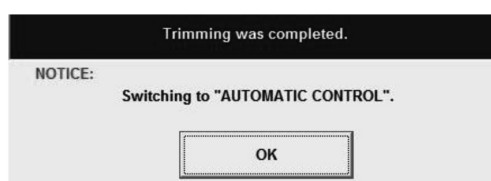

Fig.50
- ⑤ Similar to "Analog Output Trim [4-20mA]", a dialog box asks you whether you want to repeat the trim or not. Click on "YES" for repeated trim, or "NO" for proceeding to the next 5V (20mA) analog output trim.
- ⑥ Clicking on "NO" readies for 5V (20mA) trim. Similar to the 1V (4mA) trim, key in the reading of the test instrument and click on "OK" button. You are similarly prompted whether to repeat the trim or not. Click on "YES" if you desire to do so, or "NO" for terminating the trim.
- ⑦ Clicking on "NO" button exits the analog output trim. You will see a message box "Trimming was completed" as shown in Fig. 50. Click on "OK" button.